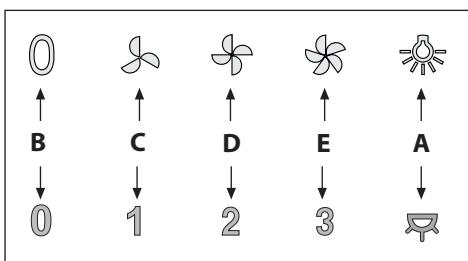

Fig.20
• **Commands (Fig.20)** mechanical the key symbols are explained below: